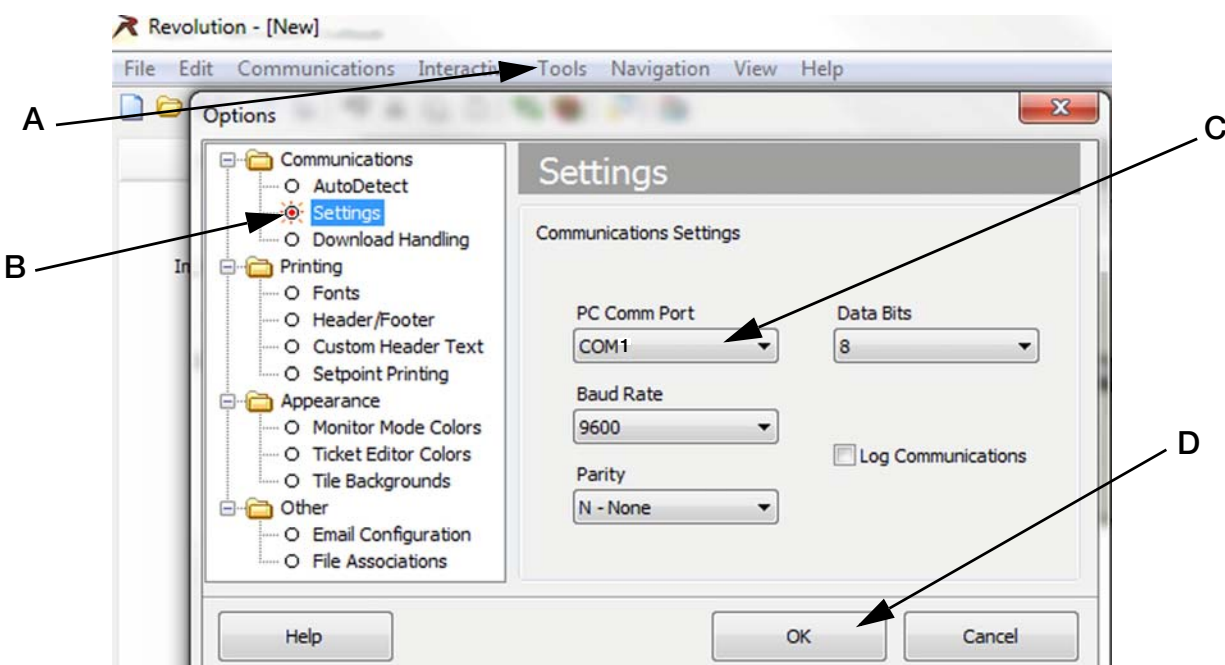

Figure 4-4. Options Screen to Select Comm Port for USB
- Go to Tools/Options (Figure 4-4 A) and select Settings (B), then choose the PC Comm Port (C).
- Click OK (Figure 4-4 D).